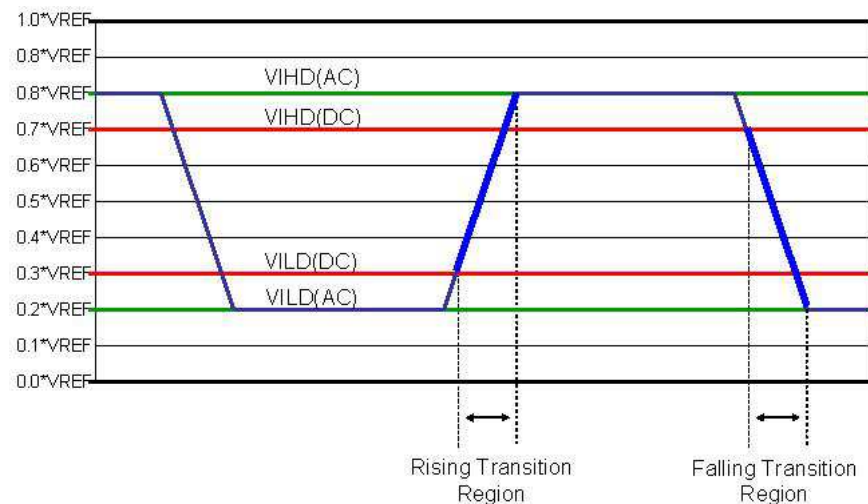

Figure 1. Low Speed (LS) I/O Input Thresholds
(1) V_{ILD(AC)} minimum applies to undershoot.
(2) V_{IHD(AC)} maximum applies to overshoot.
(3) Signal group 1 output slew rate for rising edge is measured between V_{ILD(DC)} to V_{IHD(AC)}.
(4) Signal group 1 output slew rate for falling edge is measured between V_{IHD(DC)} to V_{ILD(AC)}.
(5) Signal group 1: See Figure 1.
(6) Signal groups 2 and 3 output slew rate for rising edge is measured between V_{ILD(AC)} to V_{IHD(AC)}.